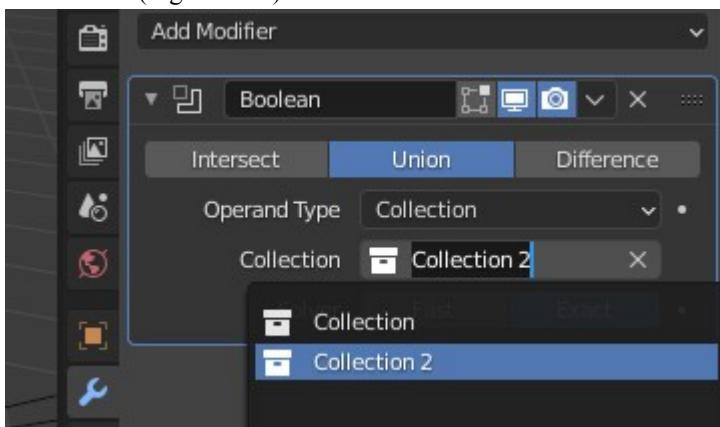

Figure 2-13 Boolean modifier acting on a Collection
1. Add four cubes near the lower end of the corridor, scaling and moving each one so they overlap each other corner to corner. Select all four cubes then select **Object ▶ Collection ▶ Move to Collection ▶ New Collection**. Select just one of them (to become the combined object), then **Add Modifier ▶ Generate ▶ Boolean (Union)**, and finally switch **Operand Type** to **Collection** and select the one you just created (Figure 2-13).